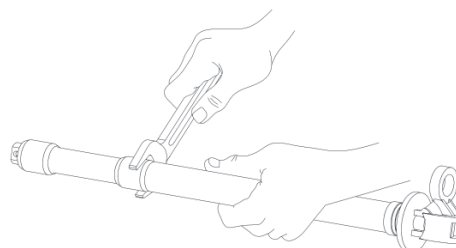

Figure 5
7. Use a 3/4 inch wrench to remove the fuse cartridge from the puller assembly and remove and discard the damaged fuse. (See Figure 5)